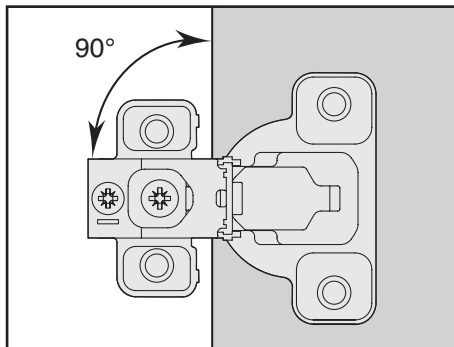

Fig. 2 - Hinge should be at a 90° angle to the door edge.
3. Insert the Excen-three® hinge into the cup hole. Be sure that the hinge is perpendicular to the door edge. **Fig. 2.** Fasten using two of the included #6 x 5/8" wood screws. Repeat this procedure for each hinge.